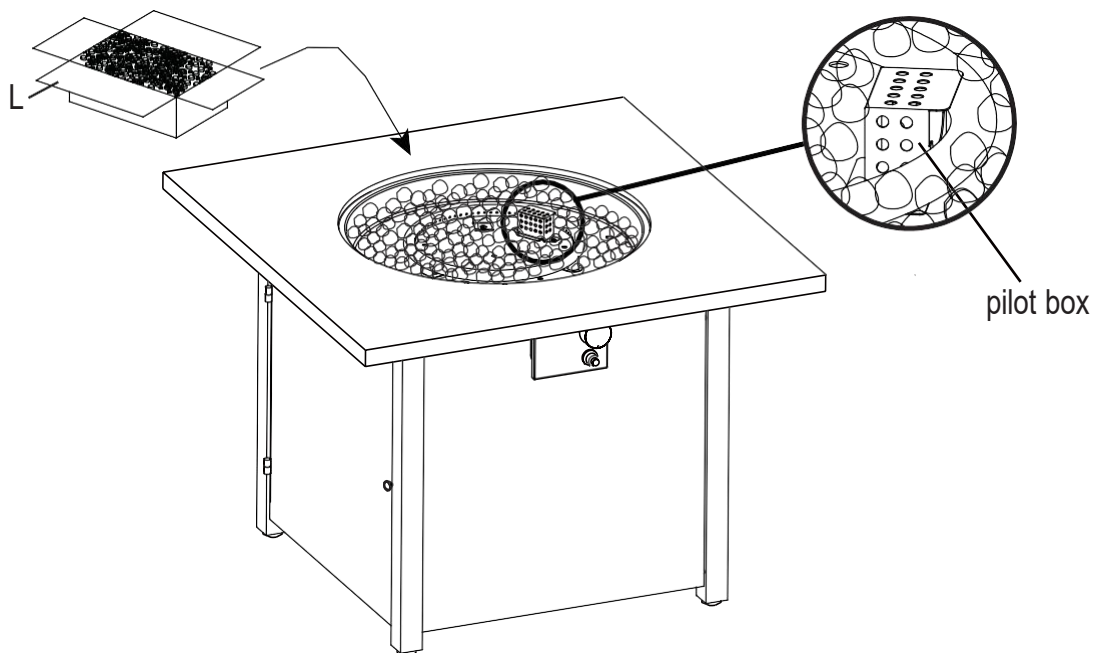

Figure 9
9. Open the box of lava rocks, put the lava rocks (L) into the fire bowl of the fire table, (see Figure 9). A gas fire pit requires 13.2 lbs lava rocks.